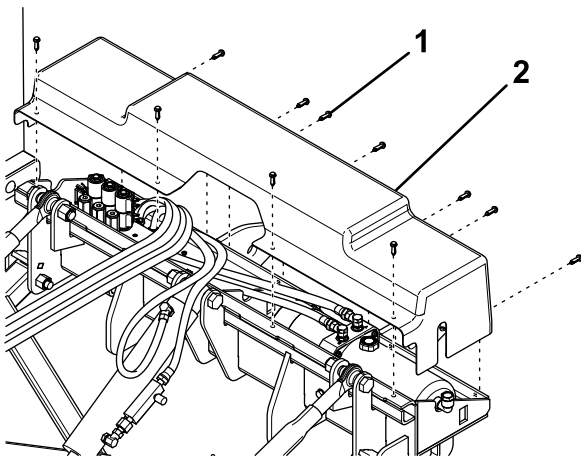

Figure 13
12. Attach the coupler assembly cover using 11 push rivets (Figure 13).